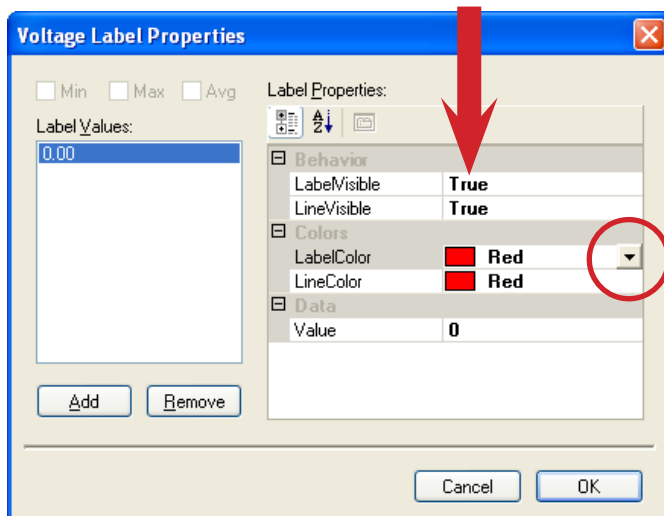
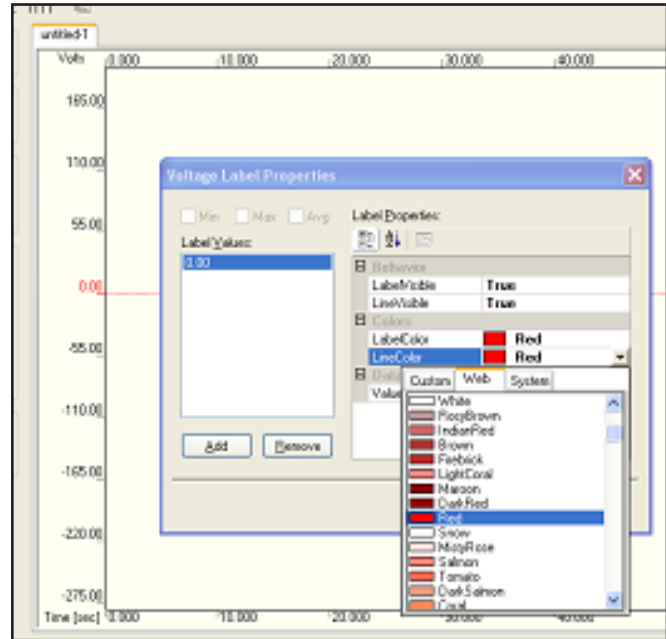

Figure 15: One can create various Chart Voltage Lines & Labels in several colors
Figure 16: Color Drop down Menu Used to Change Label
3. The Voltage Label Properties window opens. See Figure 15, below.
6. In “Colors” both Label and Line colors are individually selected using the drop down arrow. In Figure 15, the zero Label and Line will be Red. To change colors press the down arrow(s) to open the color selection drop down menu(s). Choose from several colors (Figure 16) for customizing lines and labels.